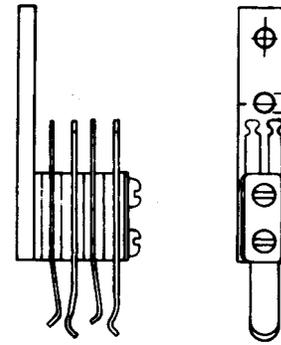

Fig. 18—348 Jack
**2.18 348:** This multicontact jack (Fig. 18) is used with the 240A or similar-type plug. This jack consists of a metal bracket on which are mounted two pairs of contact springs insulated from each other. This jack is intended primarily for terminating tests or talking lines in Step-by-Step Switching Systems. The terminals on this jack are arranged for mechanically wrapped connections. This jack is intended to mount apparatus pawl used in the 933D or similar-type mounting plates.